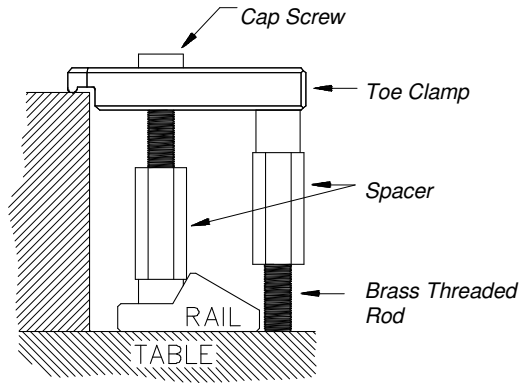

Figure 4
STEP 9. The toe clamp attached directly to the rail is shown in Fig. 4. The advantage to clamping to the rail is easy alignment of the work piece.